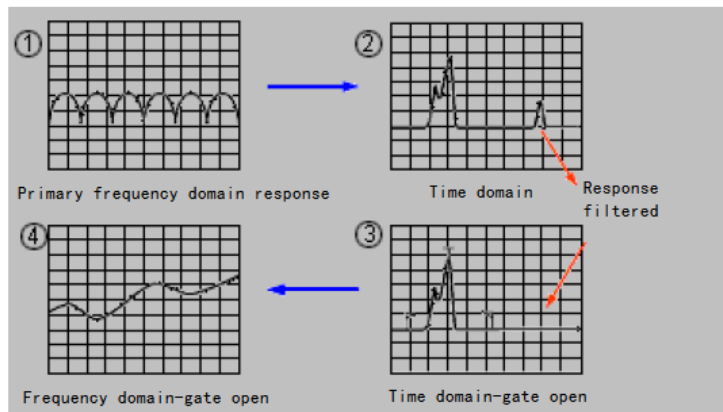

Fig. 2.10 Measurement Application of Band-pass Time Gate
- 4) Close the time domain transformation function. Observe the frequency domain response of the DUT to understand the influence of the removed response on the measurement result. Fig. 2.10 shows the measurement application of the band-pass time gate.